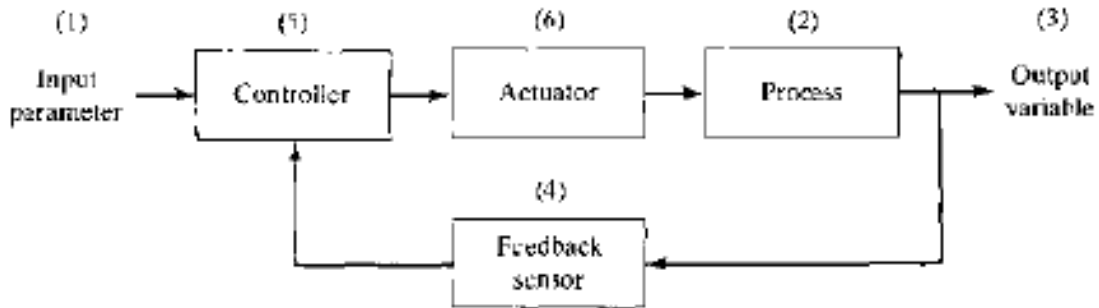

Figure 3.3 A feedback control system.
The controls is an automated system can be either closed loop or open loop. A closed loop control system, also known as a feedback control system, is one in which the output variable is compared with an input parameter, and any difference between the two is used to drive the output into agreement with the input. As shown in Figure 3.3. A closed loop control system consists of six basic elements: (1) input parameter, (2) process, (3) output variable, (4) feedback sensor, (5) Controller. And (0) actuator. The input parameter. Often referred to as the set point, represents the desired value of the output.